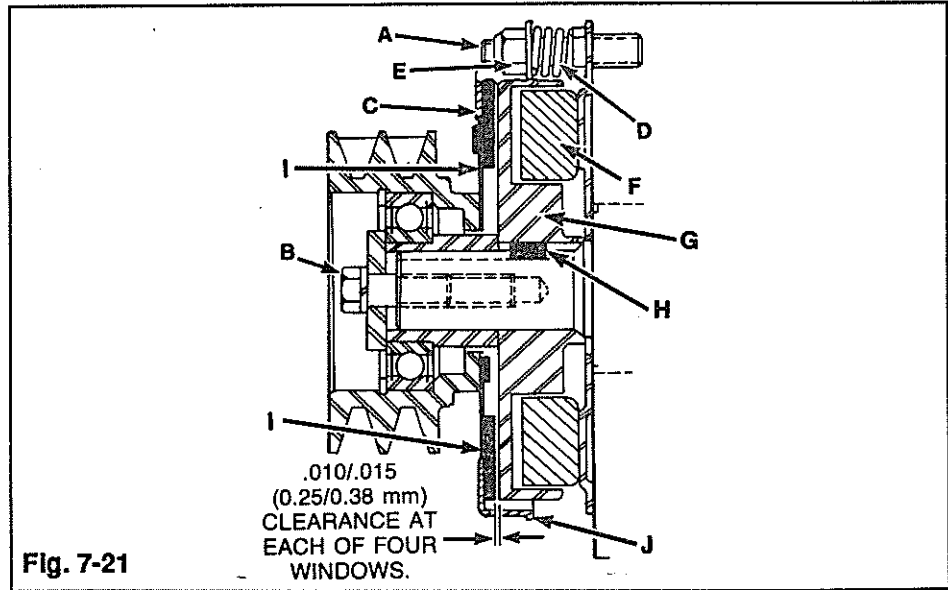

Fig. 7-21
7. Remove Bolt, lockwasher and lockwashers (B, Fig. 7-21).
8. Remove 4 locknuts (E) and remove pulley/brake plate assembly from crankshaft.
9. Remove 4 springs from studs (A).
10. Remove rotor (G) and key (H).
11. Remove 4 studs (A). Remove field coil (F).
1. Position coil assembly (F, Fig. 7-21) on engine piloting it in crankshaft seal bore. Secure with four mounting studs (A).
3. Insert key (H) into keyway on crankshaft.
5. Insert rotor (G) onto engine shaft, over key (H), until it bottoms out.
6. Install rotor (G) onto engine shaft, over key (H), until it bottoms out.